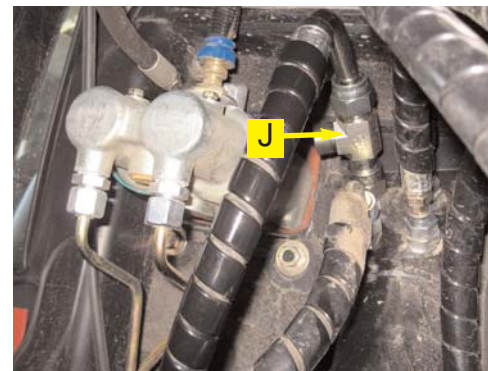

Figure 3d. Installed tank fittings.
- c. Remove the existing tank hose from the steering orbital. (Figure 3d.)
- d. Install the run-tee fitting (**J**) onto the top right port on the steering orbital. (Figure 3d.)
- e. Replace the tank hose, connecting it to the top of the run tee. (Figure 3d.)
- f. Install the adapter fitting (**K**) onto the branch of the run-tee (**J**). (Figure 3d.)